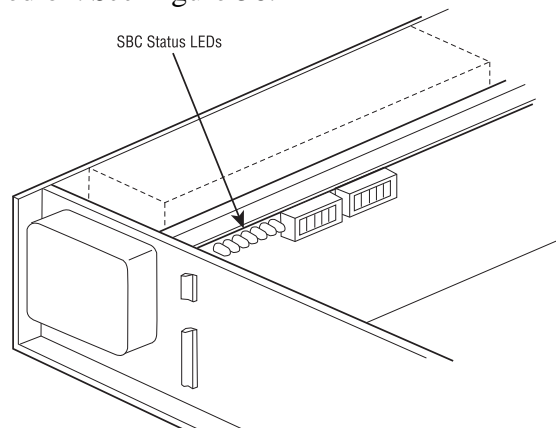

Figure 56: The controller board status LEDs.
6. Observe the row of yellow LEDs on the controller board as the unit is powered on. *See Figure 56.*